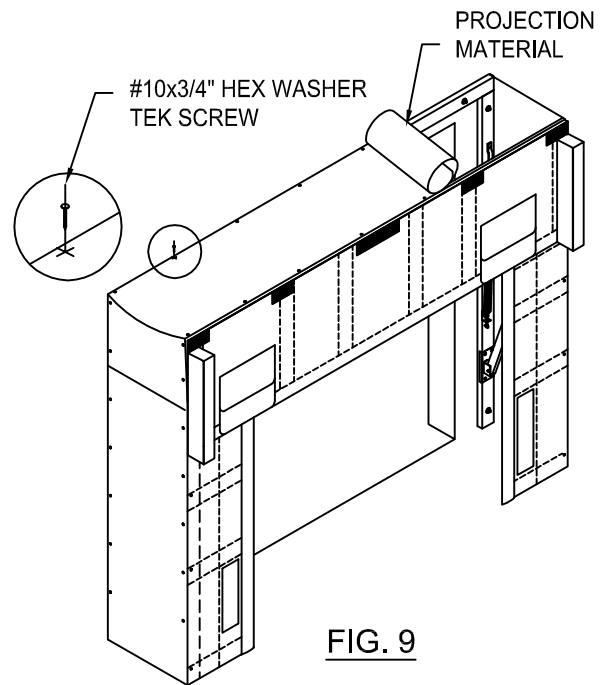

FIG. 9
* Attach the projection material working from the center out towards sides of the unit and fasten to the velco located 12" down sides (FIG. 9).